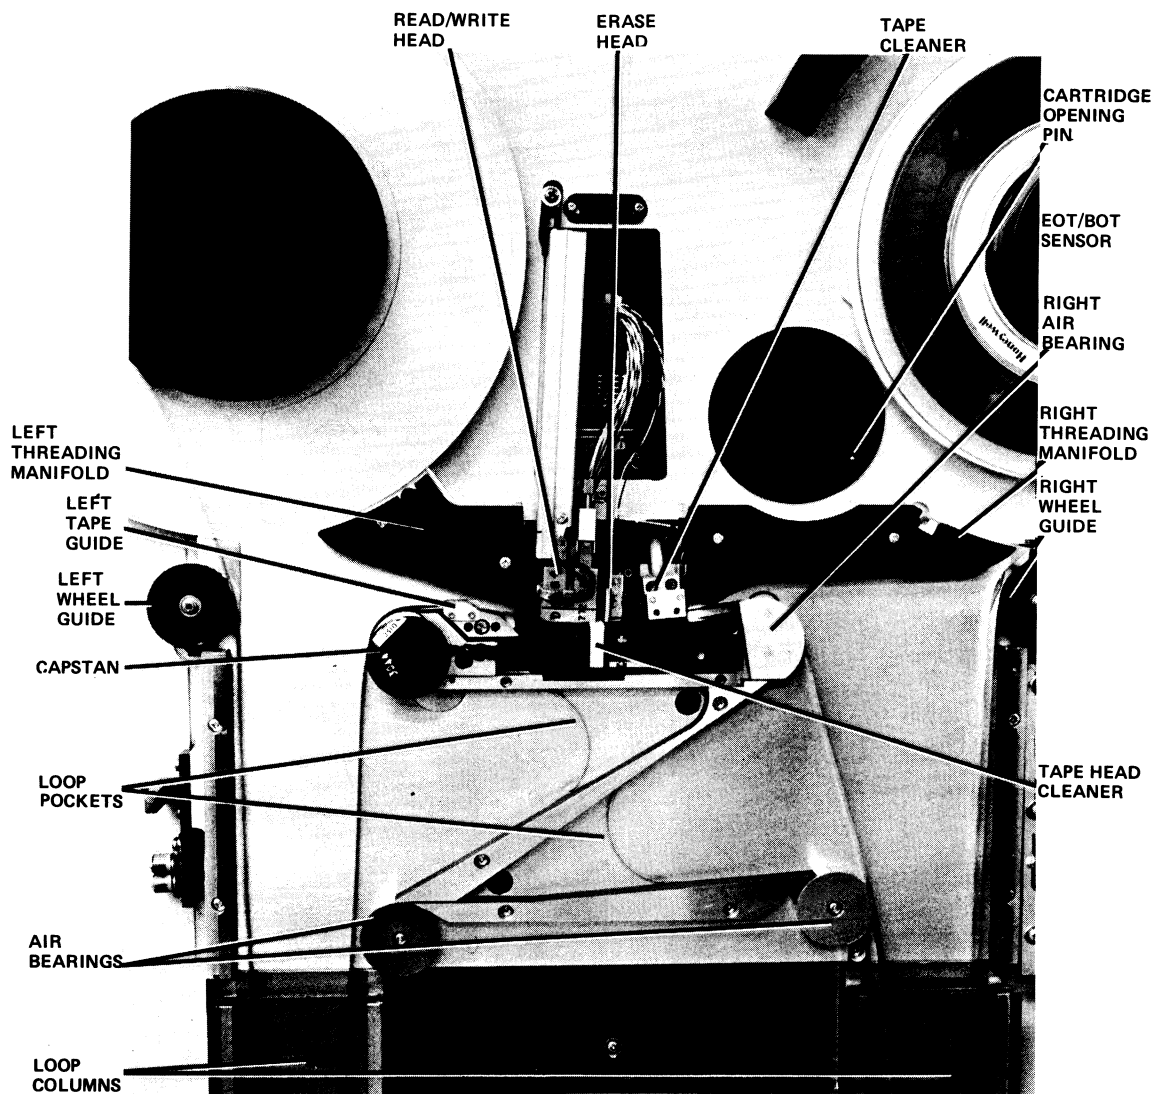

Figure 4-5. Tape Path Components
5. Using trichloroethane transport cleaner, moisten a seven-tuft brush and foam swabs and clean the following areas (see Figure 4-5):
NOTE: When cleaning the head, slide the tape head cleaner (see Figure 4-5) inward to stop; retain tape head cleaner in that position while using the other hand to accomplish the cleaning.
6. Using Freon TF113, moisten a new brush, foam swabs, and a soft, lint-free cloth and clean the following areas (see Figure 4-5):